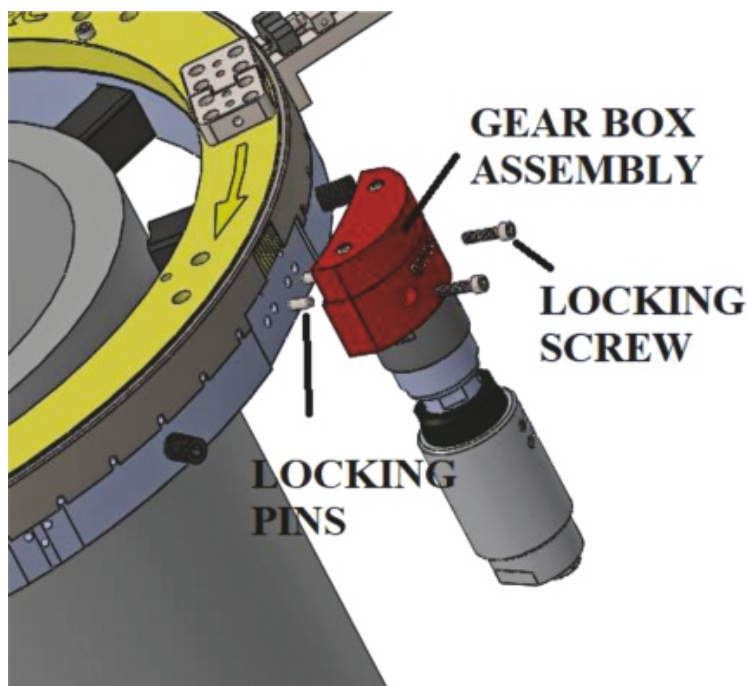

Fig 10. Motor Mounting
1. Loosen the four motor mount clamp screws. Position the motor mount toward the rear of the machine (see Figure 10).